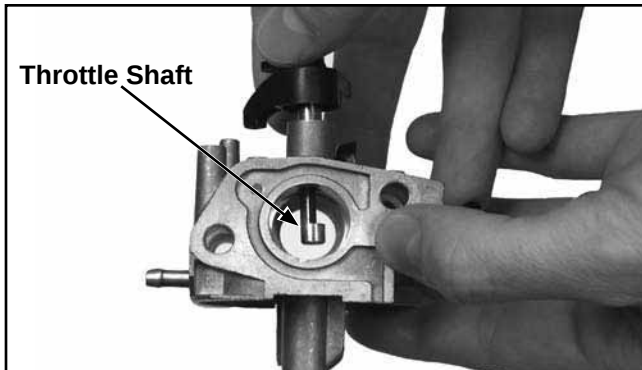

Figure 5-10. Throttle Shaft Removal.
4. Remove the throttle-plate screw, the throttle plate, and slide out the throttle shaft, noting throttle lever position. See Figures 5-10 and 5-12.